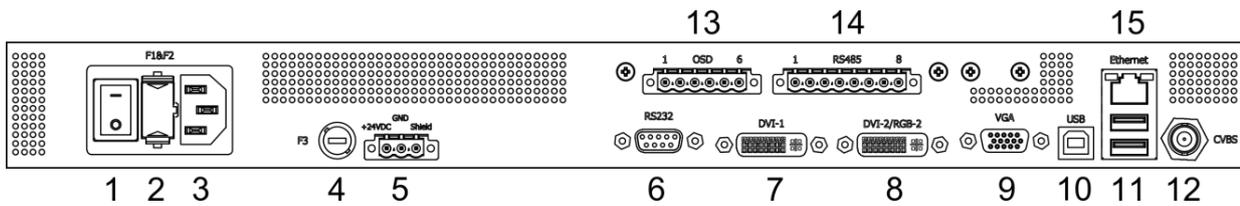

Figure 4: Location of the Interfaces
2. Location of the Interfaces *Figure 4: Location of the Interfaces* on page 12.